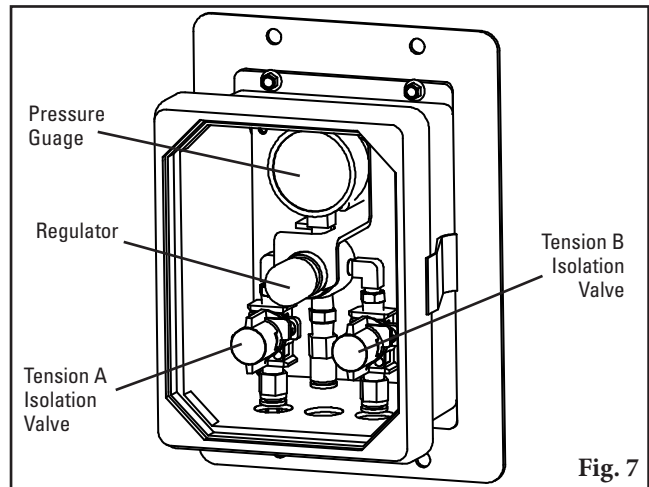

Fig. 7
9. **Position the pole.** Rotate pole upward to bring tips into contact with head pulley (Fig. 7). Centre the tips across the belt. While applying light pressure on the centre tip, shift loosened bearing mount until tips are contacting belt evenly across full width. Lock cleaner into this position by tightening bearing mount bolts.
7. **Position the pole.** Rotate pole upward to bring tips into contact with head pulley (Fig. 7). Centre the tips across the belt. While applying light pressure on the centre tip, shift loosened bearing mount until tips are contacting belt evenly across full width. Lock cleaner into this position by tightening bearing mount bolts.
7. **First-Time Pressurizing Tensioners.** Refer to the specific cleaner instruction manual to note the required tension pressure. Refer Fig. 7, open the tensioner isolation valves to full open position. Slow open the regulator handle in a clockwise direction and monitor the pressure until the required pressure is achieved. Allow the system to rest for 5 minutes and check, if additional pressure is required the regulator until the desired pressure is reached.